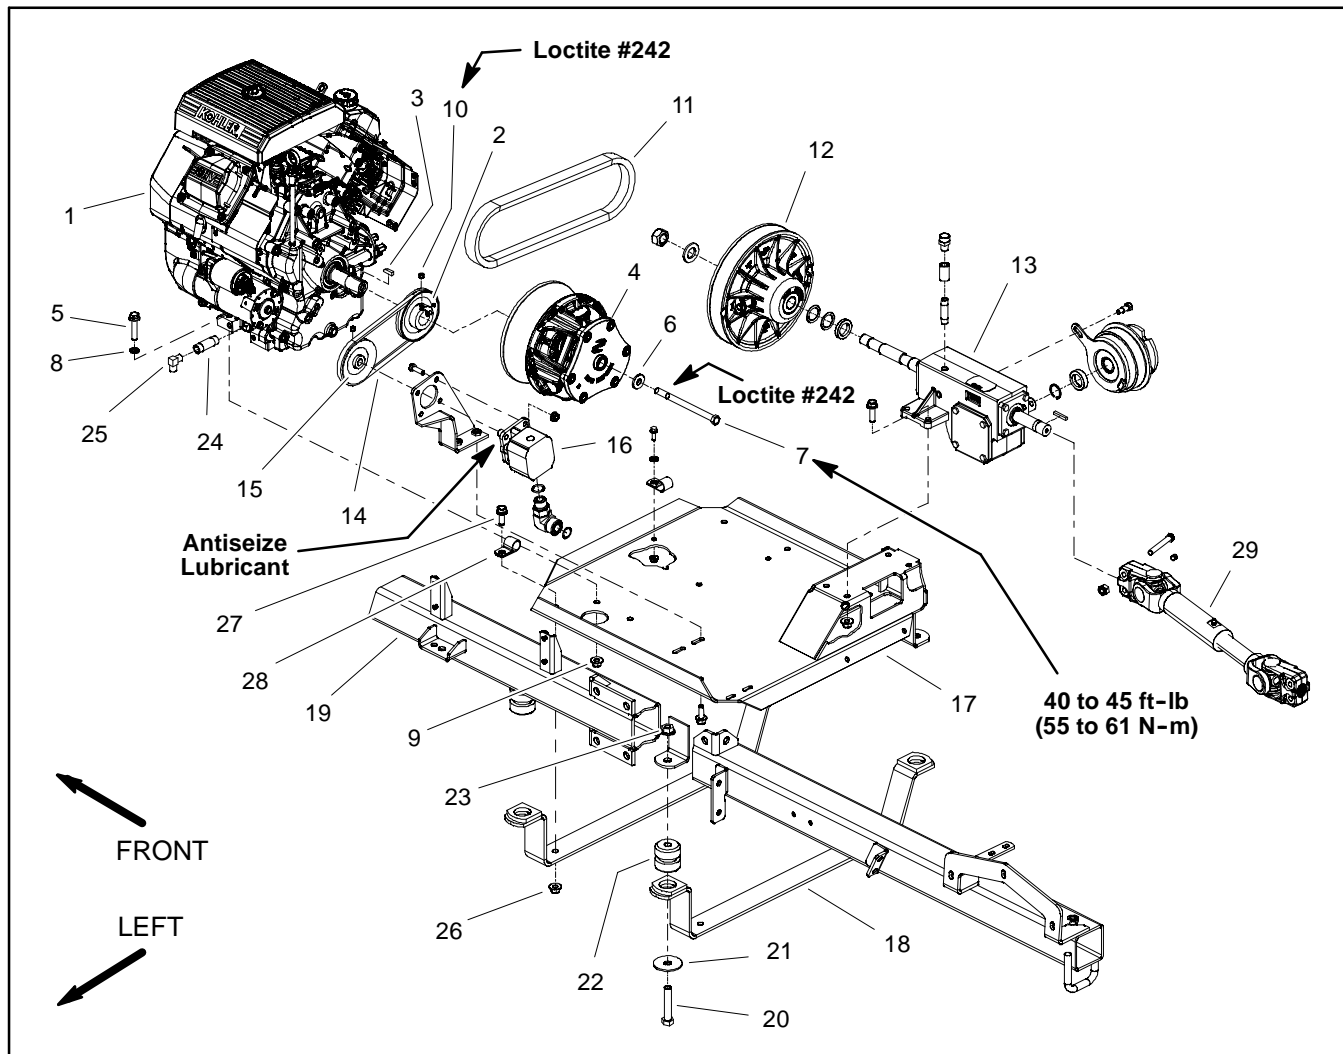

Figure 8
Removal (Fig. 8)
12. Remove engine mounting plate assembly from machine (Figs. 8 and 12):
B. Remove four (4) cap screws, washers and flange nuts that secure the engine support straps to the frame.
Installation (Fig. 8)
2. Reinstall engine mounting plate assembly to machine (Figs. 8 and 12):